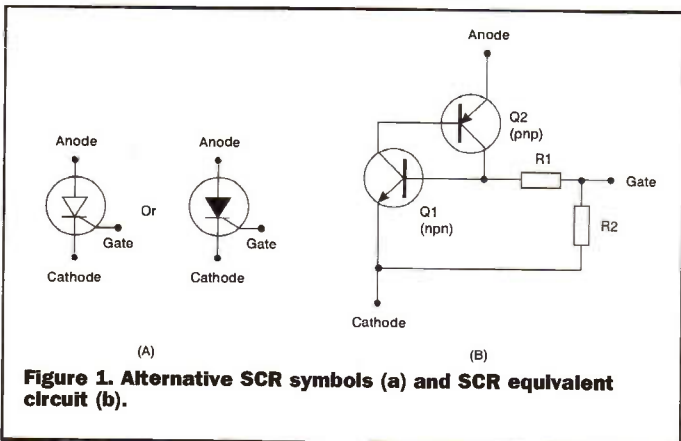
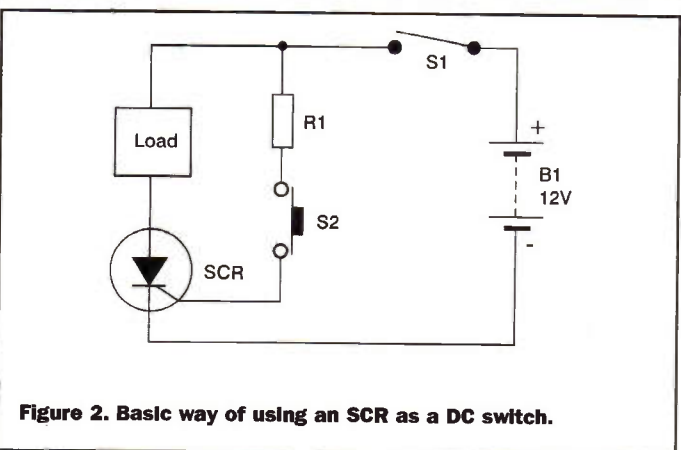

Figure 1. Alternative SCR symbols (a) and SCR equivalent circuit (b).
Figure 2. Basic way of using an SCR as a DC switch.
An SCR is a four-layer pnpn silicon semiconductor device. It has three external terminals (anode, gate, and cathode) and uses the alternative symbols of Figure 1(a) and has the transistor equivalent circuit of Figure 1(b). Figure 2 shows the basic way of using the SCR as a DC switch, with the anode positive relative to the cathode, and the SCR controlled via its gate. The basic characteristics
1. When power is first applied to the SCR by closing S1 in Figure 2, the SCR is 'blocked' and acts (between anode and cathode) like an open switch. This action is implied by Figure 1(b), i.e., Q2's base current is derived from Q1 collector, and Q1's base current is derived from either Q2 collector or the gate terminal; in the latter case no base current is available, so both transistors are cut off, and only a small leakage current flows from anode to cathode.
S2; the SCR quickly (in a few microseconds) self-latches into the on state under this condition, and stays on even when the gate drive is removed. This action is implied by Figure 1(b); the initial gate current turns Q1 on, and Q1's collector current turns Q2 on, and Q2's collector current then holds Q1 on even when the gate drive is removed: a 'saturation' potential of 1V or so is generated between the anode and cathode under the on condition.
gate characteristics are similar to those of a transistor base-emitter junction (see Figure 1(b)).